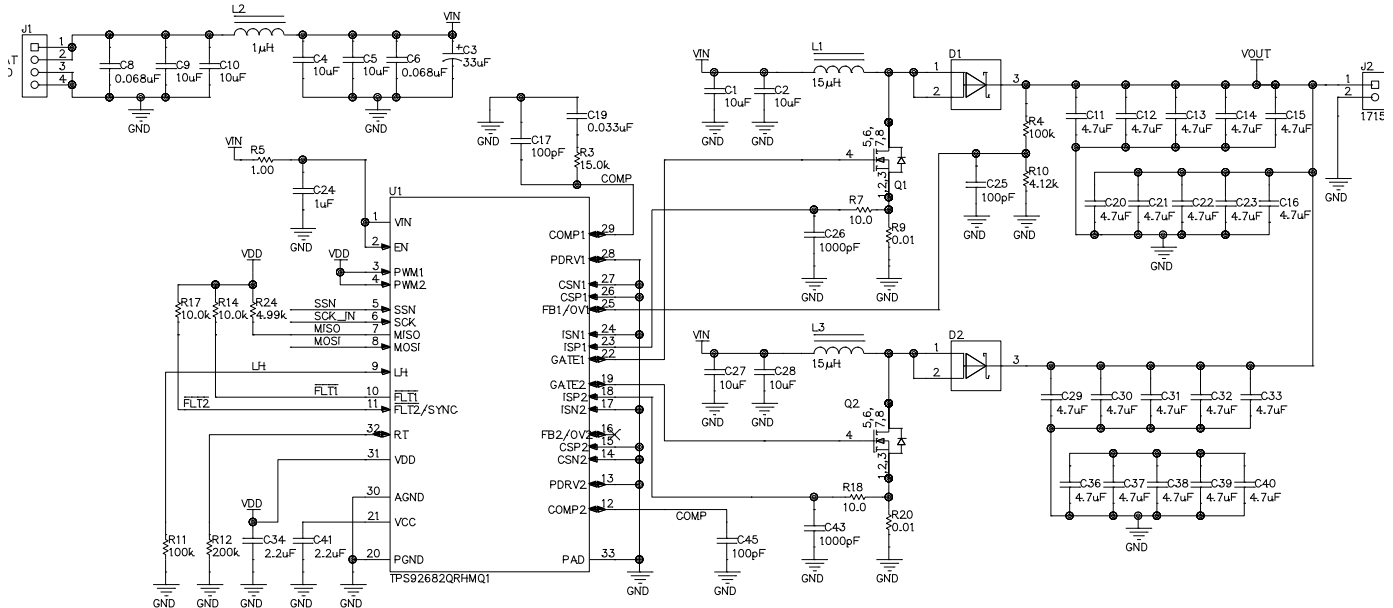

图 8-24. CV Mode Two-Phase BOOST
图 8-24 shows the schematic for a two-phase Boost Constant Voltage (CV) regulator.
Eight $10\text{-}\mu\text{F}$, 50-V ceramic capacitors are used in parallel to achieve a combined input capacitance of $80 \mu\text{F}$. As shown in 图 8-24, an additional $33\text{-}\mu\text{F}$, 50-V electrolytic capacitor and a $1\text{-}\mu\text{H}$ inductor are also used at the input terminal. The electrolytic capacitor is used to further decrease overshoot and undershoot during load transient. The input inductor is used to decrease the switching noise and improve EMI performance.